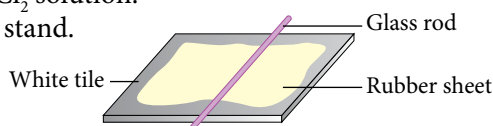

Figure 4.9
- Pour the latex onto the white tile and spread it over using the glass rod as shown in Figure 4.9.